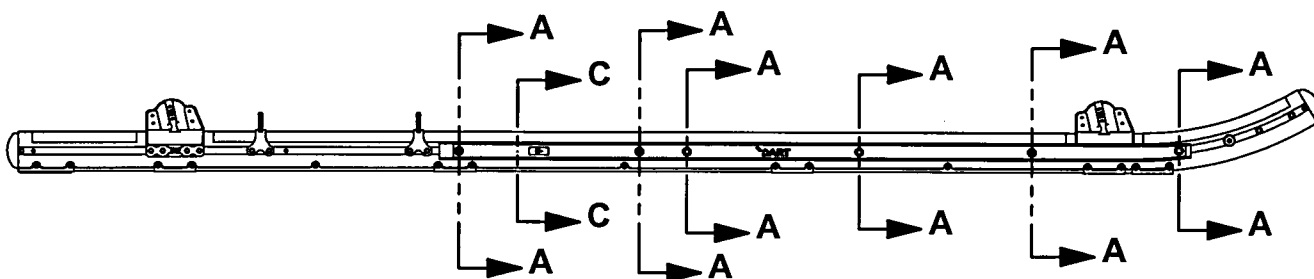

FIGURE 1: D119-646-314 SKIDTUBE PROTECTOR KIT, RH (SHOWN)
- 4.7 Install D5369-2 Cable Guard on the RH side of the aircraft using 6x AN3-47A bolts, 6x D5374-1 Bushings, 6x D4506-3 Washers, 12x NAS1149D0332J washers, 6x MS21042L3 nuts as shown in Figure 1 Section A-A. Torque bolts to 15-25 in-lbs (1.7-2.8 N-m).
- 4.8 Install D5369-1 Cable Guard on the LH side of the aircraft using 6x AN3-47A bolts, 6x D5374-1 Bushings, 6x D4506-3 Washers, 12x NAS1149D0332J washers, 6x MS21042L3 nuts as shown in Figure 1 Section A-A. Torque bolts to 15-25 in-lbs (1.7-2.8 N-m).